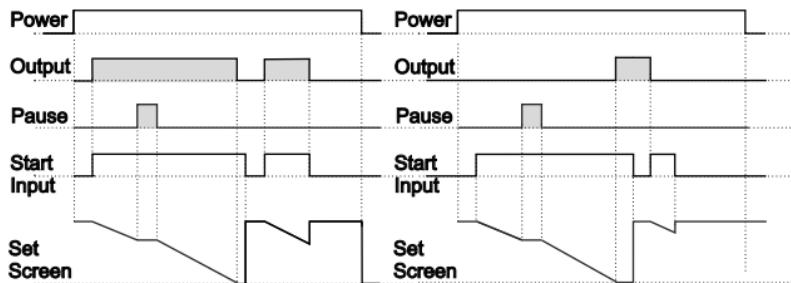

Figure 3.1
3.1.1 If Downcount `dEct`=1 and `butF` is `0-n` the control diagram is shown in Figure 3.1